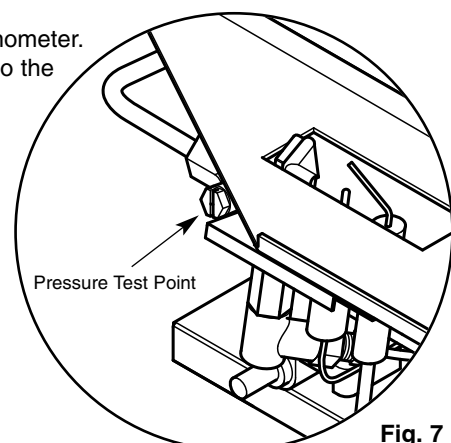

Fig. 7
1. Unscrew the pressure test point sealing screw (Fig. 7) and fit a manometer. Consult the user instructions (page 13). Ignite the appliance and turn to the high position.